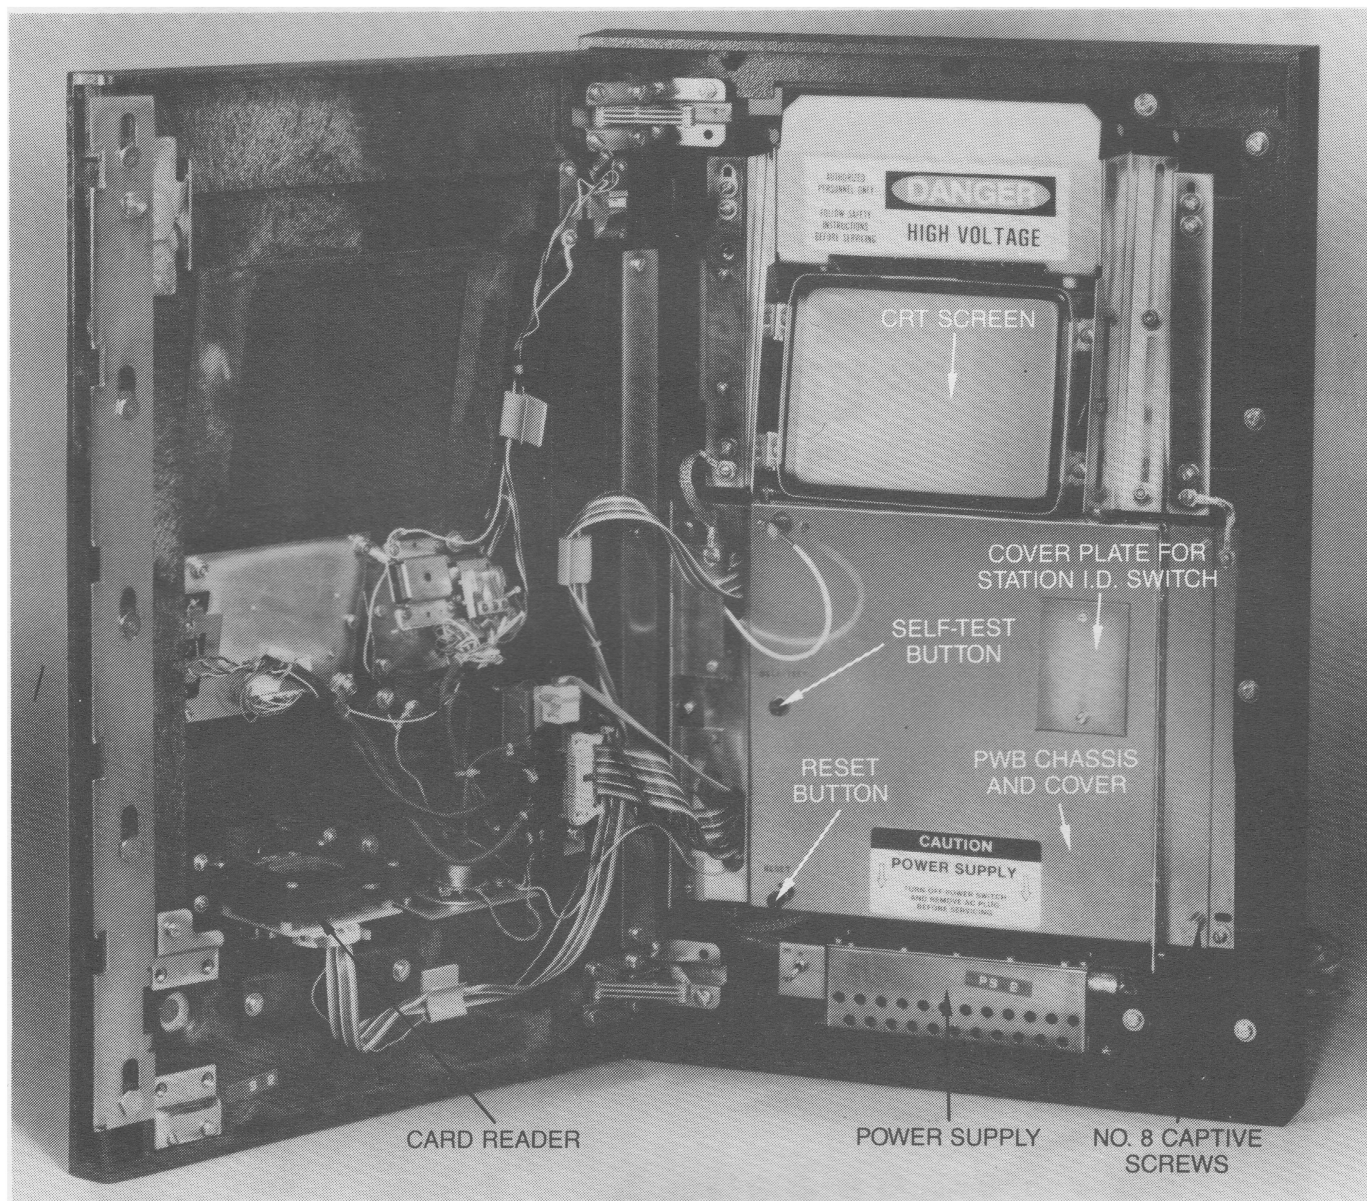

FIGURE 5: INSIDE VIEW WITH PWB CHASSIS CLOSED.
- d) Remove PWB chassis cover. (See Figures 5 and 8.)